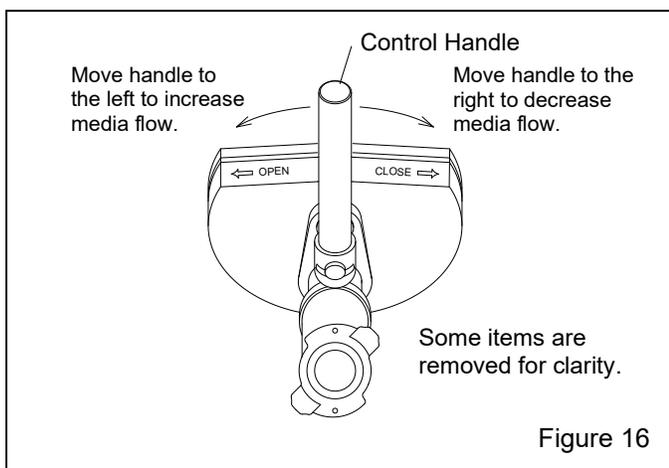

Figure 16
5.2 Media Metering (media flow) – Figure 16
These instructions and the illustration in Figure 16 are for a standard cabinet with a Sentinel Metering Valve. Optional metering valves may function differently, but the process is similar. Refer to the metering valve owner’s manual for the operation of the valve provided.